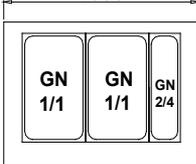
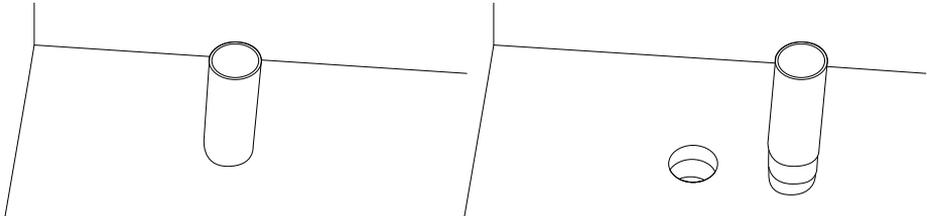

**Fig.1 Construction of the device**
Fig.4 Water level pipe
- Place the display cabinet on an even basis, which is hard enough, and then level it with feet Fig.1/7 (p.8)
- Check whether the water outflow ball valve is closed Fig.1/6 (p.8)
Before connecting water bain-marie it is essential to check the closure of ball valve located below the display cabinet body Fig.1/6 (p.8) and fill the tank with proper amount of clean water (f. ex. with rubber hose) – about 40 mm (below the water level pipe). Bain-marie tank may be filled above the pipe level (with closed ball valve), however, water heating time shall be slightly longer, and heaters will work in a continuous manner, which will cause greater electric energy consumption and faster tear and wear of heaters. **We carefully pour water directly into bain-marie tank, to avoid flooding the electrical part!**
It is recommended to make a break in the exploitation of the device once a week in order to clean its interior. Remove the dirty water from the tank by opening the water outflow ball valve Fig.1/6 (p.8) and pulling out the water level pipe from the open channel of the pan Fig.4 (p.10).